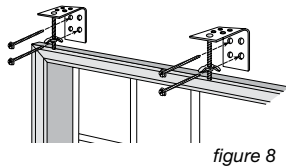

figure 8
3. Remove brackets from headrail. Starting at one side of the window, match a bracket to the marking on the wall and mark the location of the holes. Pre-drill the holes using a 1/16" drill bit. If using fasteners (not provided), you may need a larger drill bit. Install bracket using #8 x 1 1/2" screws (figure 8).